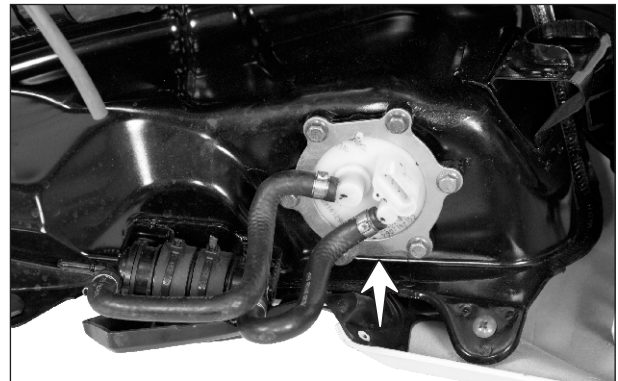

Fig. 5.32
- The fuel level sensor is in fuel pump module, it is fitted at the bottom of the fuel tank. (Fig. 5.32)